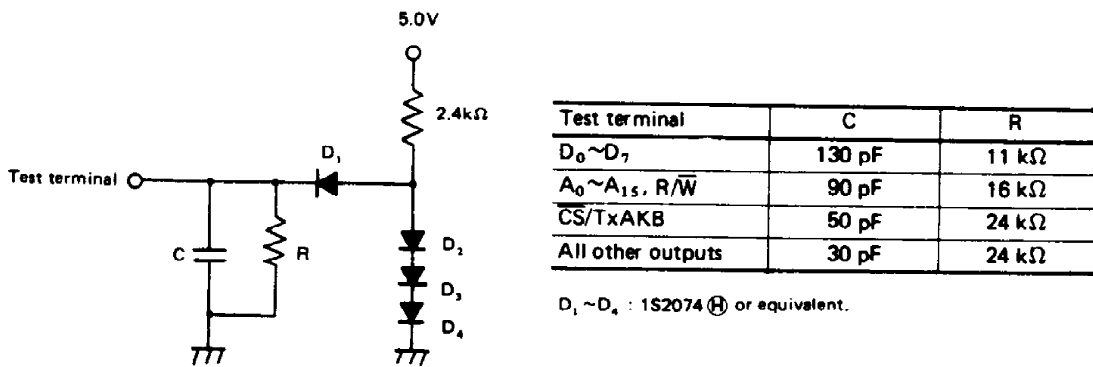

Figure 9 Load Circuit
● AC CHARACTERISTICS (Load Condition Fig. 9)
2. DMA TIMING (Load Condition Fig. 9)
3. BUS TIMING (Load Condition Fig. 9)